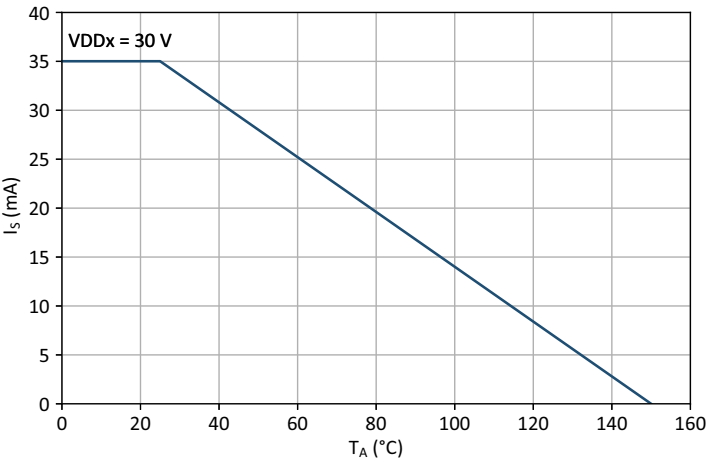
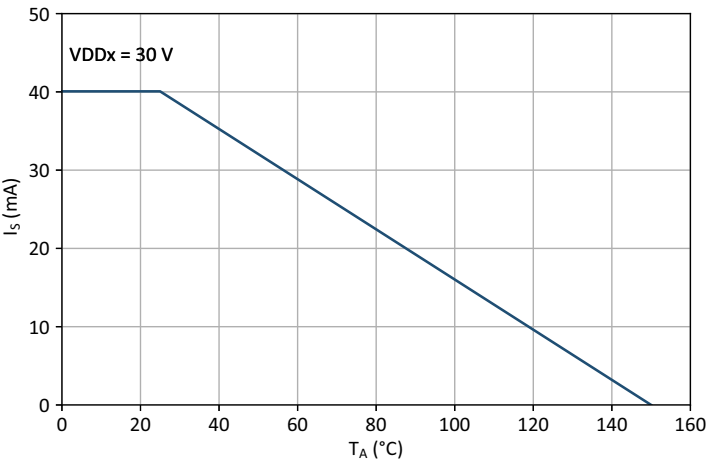
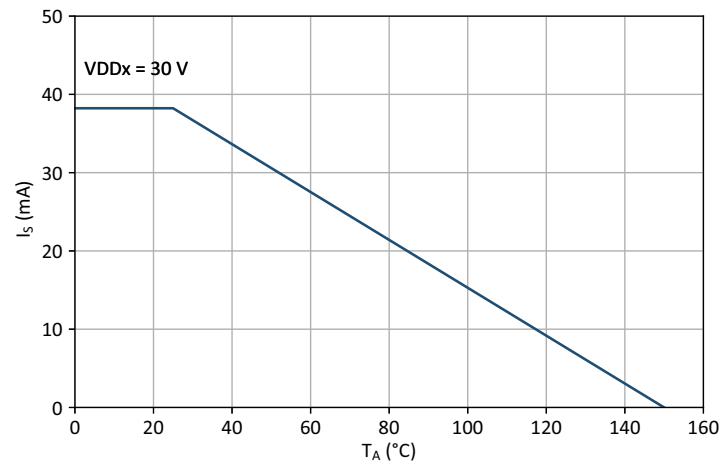

Figure 28. NB SOIC-8 Safety Current vs. Ambient Temperature Derating Curve
Figure 29. NB SOIC-16 Safety Current vs. Ambient Temperature Derating Curve
Figure 30. LGA-13 Safety Current vs. Ambient Temperature Derating Curve
1. Maximum value allowed in the event of a failure; Refer to Figure 28, Figure 29, and Figure 30 for thermal derating curves.